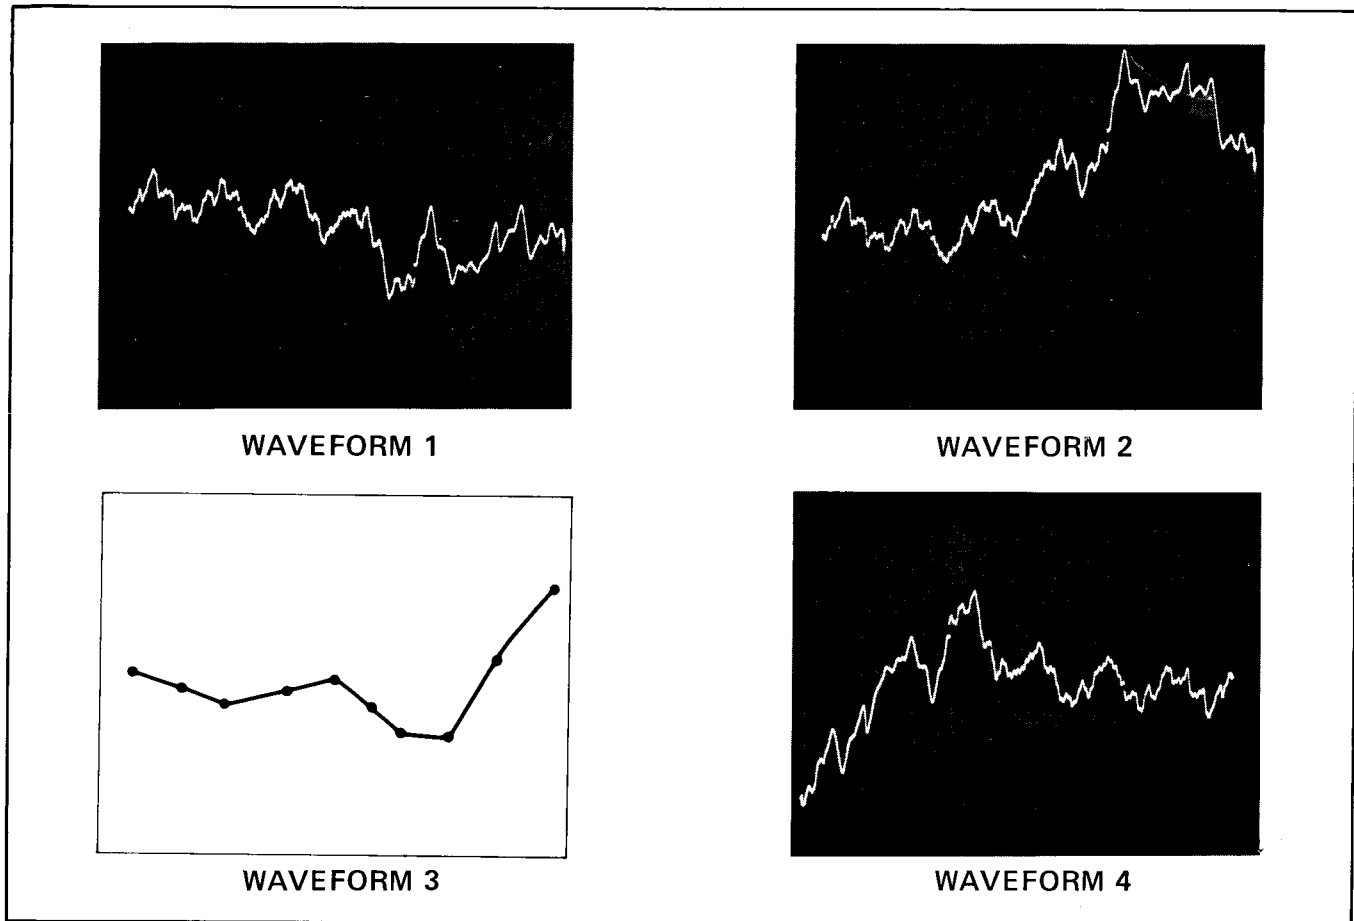

Figure 5-13. Detector Compensation Adjustment Waveforms
- b. Rotate POWER LEVEL control clockwise to align trace dot with calibration line drawn in step 1. Press 8620C FULL SWEEP pushbutton. Display should be similar to either Waveform 1 or Waveform 2 of Figure 5-13.
- c. Adjustments for Waveform 1 (Figure 5-13):
- (1) Adjust F1 control A1R29 and G1 control A1R36 so the first three-quarters of the trace conforms to shape of calibration line drawn in step 1 (WAVEFORM 3).
- (2) Adjust F2 control A1R42 and G2 control A1R55 to shape last portion of trace. (Typical adjusted response is shown as WAVEFORM 4).
- d. Adjustment for Waveform 2 (Figure 5-13):
- (1) Adjust F2 control A1R42 and G2 control A1R55 so the first three-quarters of the trace conforms to shape of calibration line drawn in step 1 (WAVEFORM 3).
- (2) Adjust F1 control A1R29 and G1 control A1R36 to shape last portion of trace. (Typical adjusted response is shown as WAVEFORM 4.)
- l. Display should be similar to either Waveform 1 or Waveform 2 in Figure 5-13.